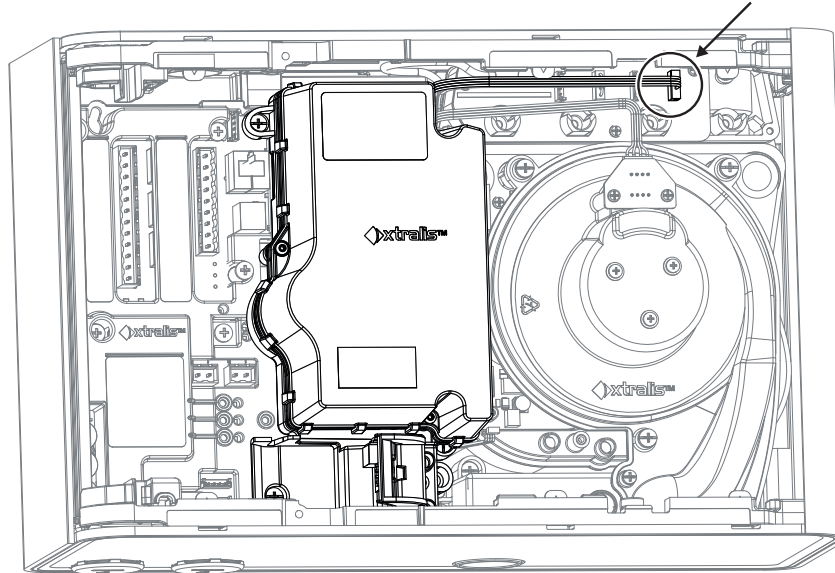

Figure 7-11: Disconnect Chamber Loom
4. Disconnect the chamber loom from the connector labeled J3 (Figure 7-11).
5. Reconnect the loom to J3 (Figure 7-11).